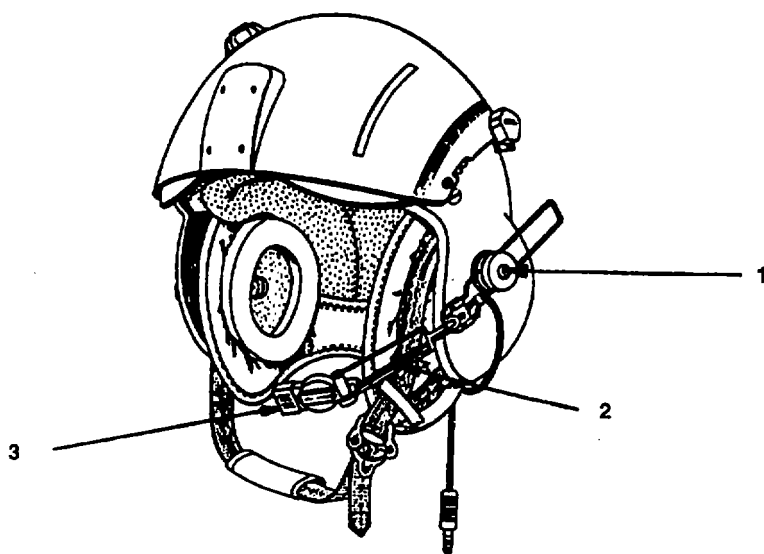

Figure 2-5. Boom and Headset-Microphone
f. Boom and Headset-Microphone (Figure 2-5). The boom swivel assembly (1) allows for easy adjustment and location of the boom (2) and microphone (3).